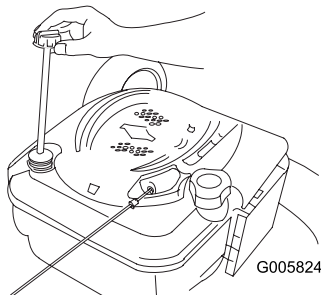

Figure 39
1. Retirez la jauge (Figure 39).